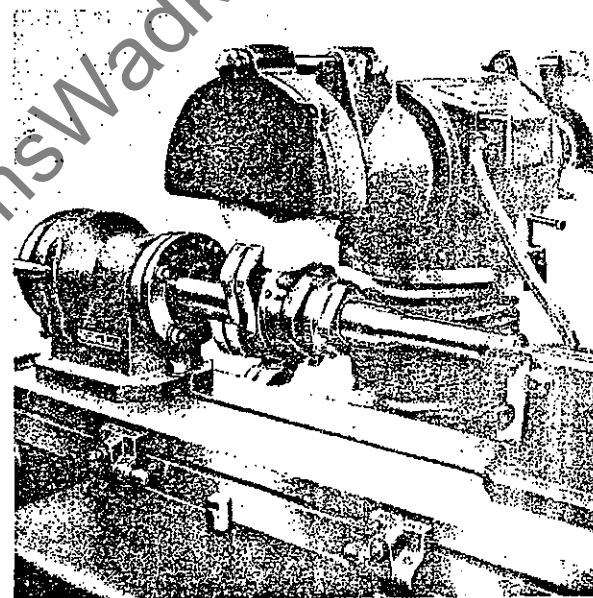

Fig. 19. After the initial setting (Fig. 18) the remaining cutters are precision located by the dividing head.
- (4) Lock the arbor firmly in position and remove setting block and commence grinding in the usual way. After the initial setting of the first cutting edge, the remaining edges are precision located by the dividing head. The completed set-up is shown in Fig. 19.